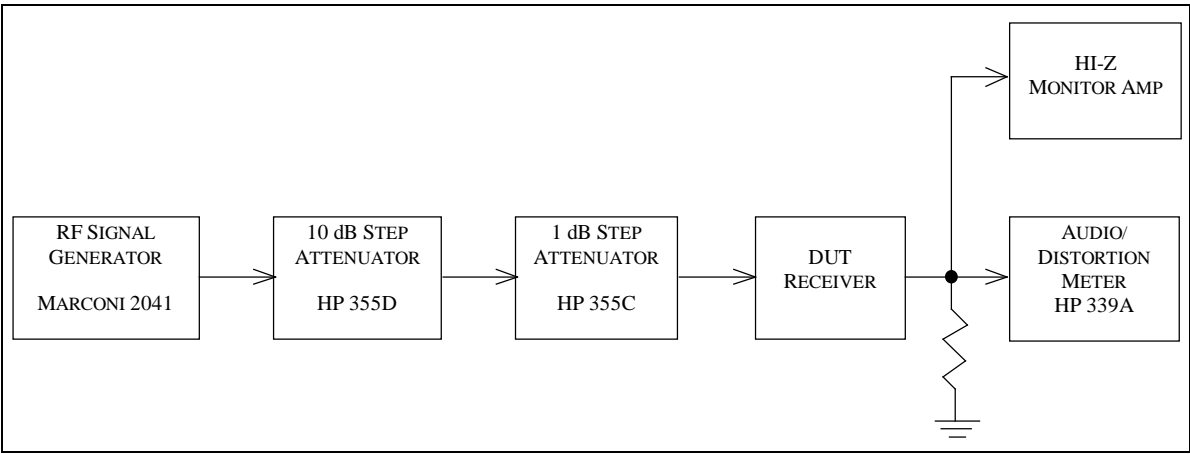

Fig. 5-6 Antenna Port Isolation Test Hook-Up
5.6.2 Test hook-up (See Fig. 5-6)